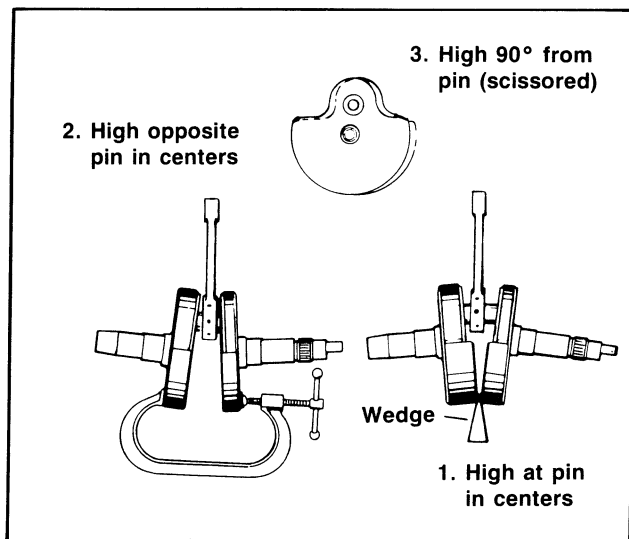

Figure 68 – Correcting Crankshaft Misalignment
- See Figure 68. Shafts must run true within .002 in. on fan side and .002 in. on transmission side. Correct flywheel alignment as follows: